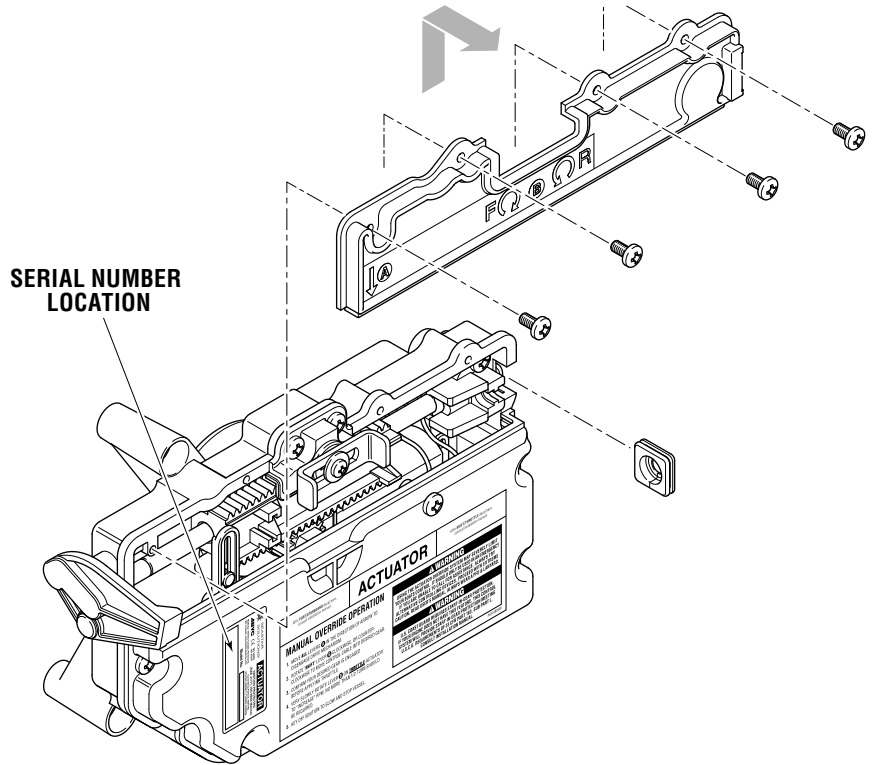

Figure 4-11. Actuator cover removal and location of serial number.
8. Remove the cable access covers (see figure 4-11) on all actuators. Do not connect the mechanical cables yet.
3. Lay the cable into the actuator and install the dust seal (E).
4. Re-install the actuator cover (See figure 4-11).
1. Lay the cable into the actuator and install the dust seal (E).
2. Re-install the actuator cover (See figure 4-11).